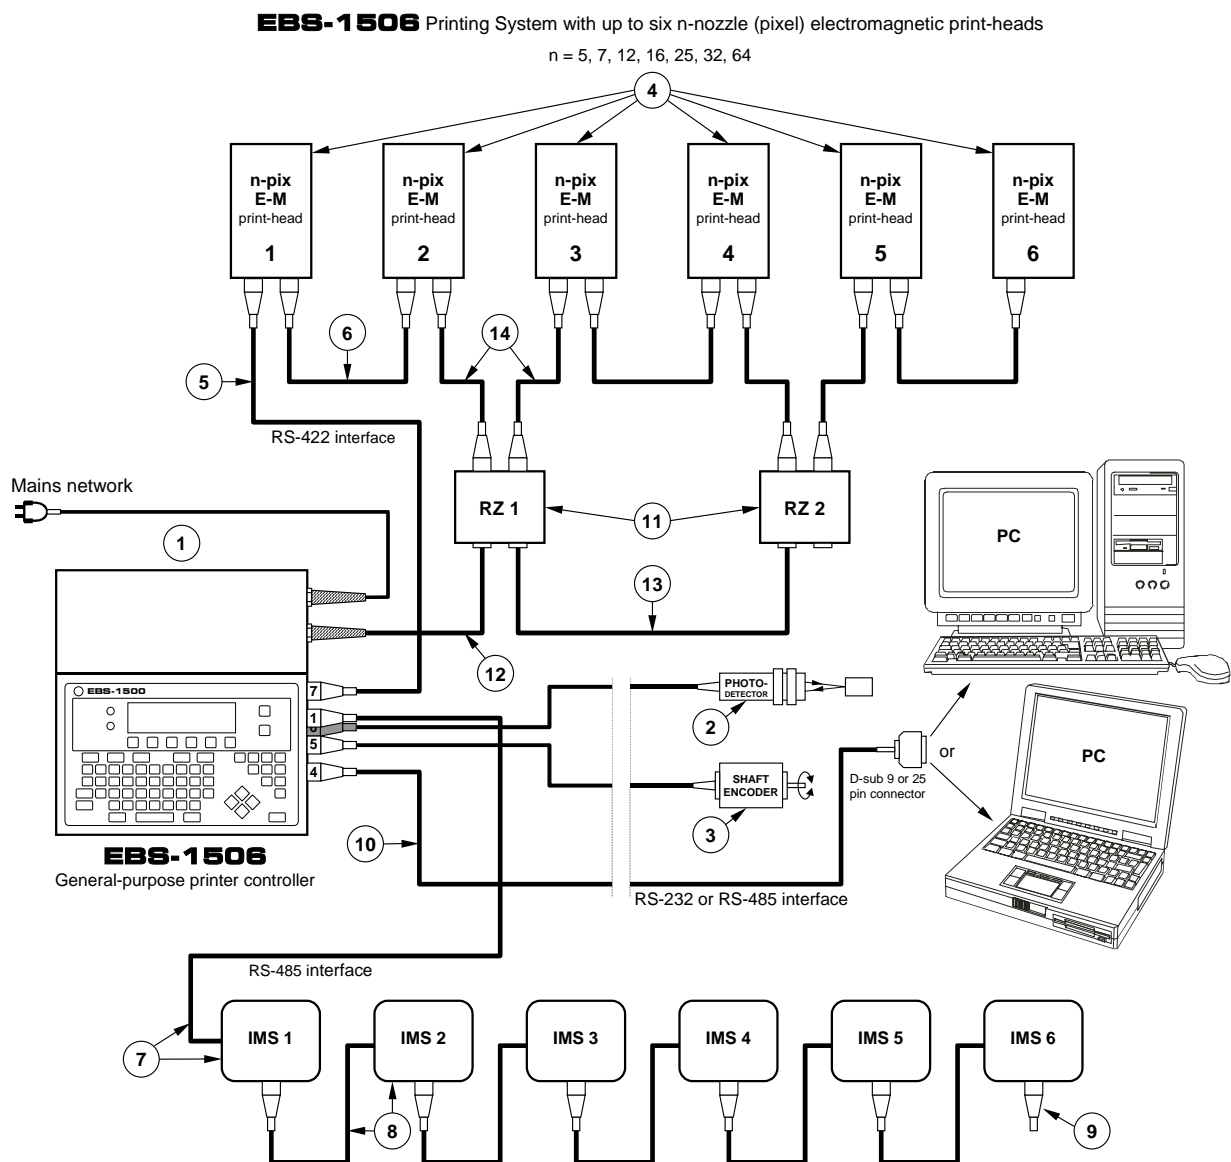

Fig. 4.2.2. Connection diagram for a printing system with six electromagnetic print-heads and a compressor system
- The six-head printing system shown in **Fig. 4.2.2** is an illustration of how to connect the system elements. The system will work properly only when the requirements presented in section **4.1 Restrictions on Printing System Configuration** are satisfied and when it is designed in compliance with the guidelines given in section **4.7 Rules for designing a multi-head printing system**.